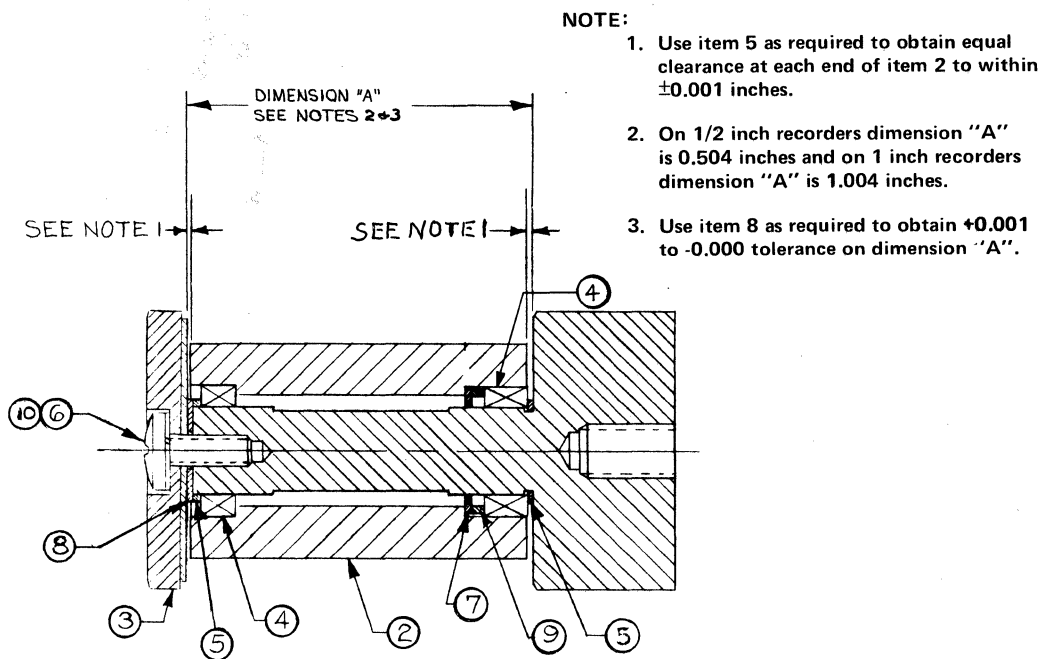

Figure 7-4. Translation and Guide Rollers
- Step 7. Place shim washer(s) (5) over the shaft on top of the front bearing.
- Step 8. Lay shim washer(s) (8) on top of the assembly and install the roller cap.
- Step 9. Tighten the roller cap retaining screw and check that the roller turns freely on the bearings. The clearance at the front and rear of the roller and dimension "A" should be in accordance with the tolerances called out on Figure 7-4. If necessary, disassemble the roller and add or remove shims (5) and (8) to achieve the correct results.